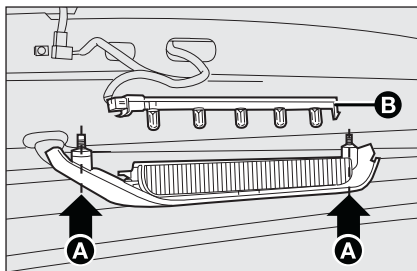

fig. 30
- undo both fastening bolts **A**-**fig. 30**;